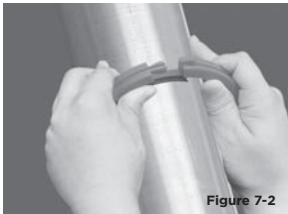

Figure 7-2
3. Align the slot and end piece and connect them (Figure 7-2).